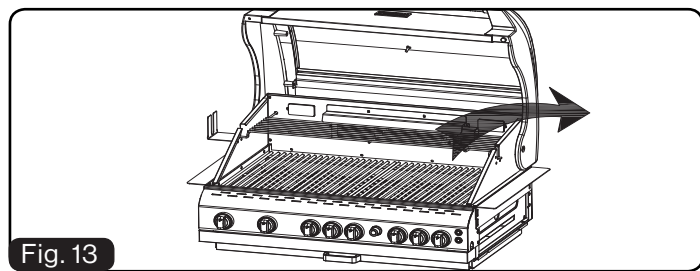

Fig. 13
13. Put the warming rack into BBQ body as show. (Fig. 13)